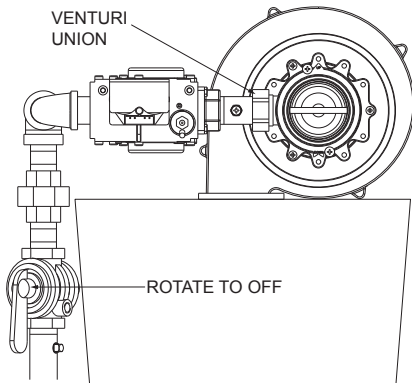

Figure 47. Shut-off Valve & Venturi Location 198AR thru 398A
1. Loosen the Venturi Union from the Manifold Nipple. See Figure 47.